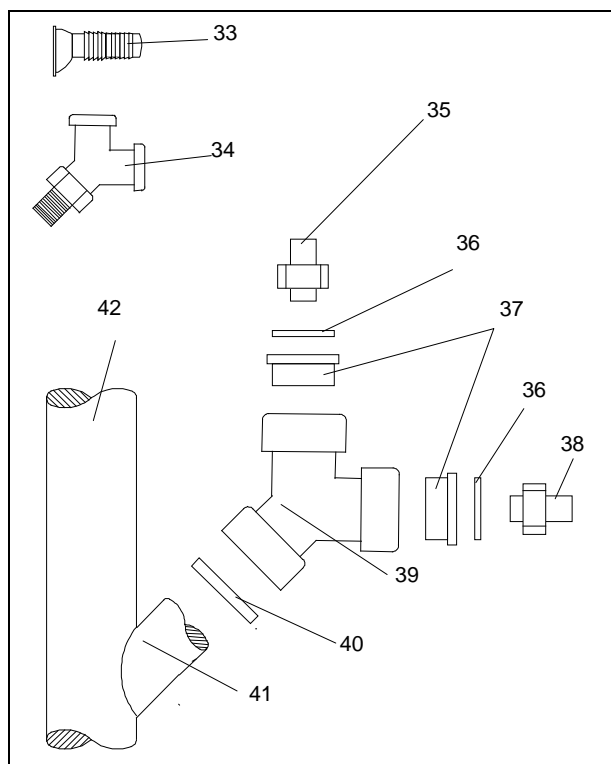

Fig. 4: wastewater connection
- The wastewater connections should be made in accordance with Fig. 4, using the parts supplied; preferably directly before the wastewater trap of the sink. When installing the Y-connection (dobble hose nozzle Fig. 4, pos. 39) check that the anti-flooding flaps placed properly in the notches.